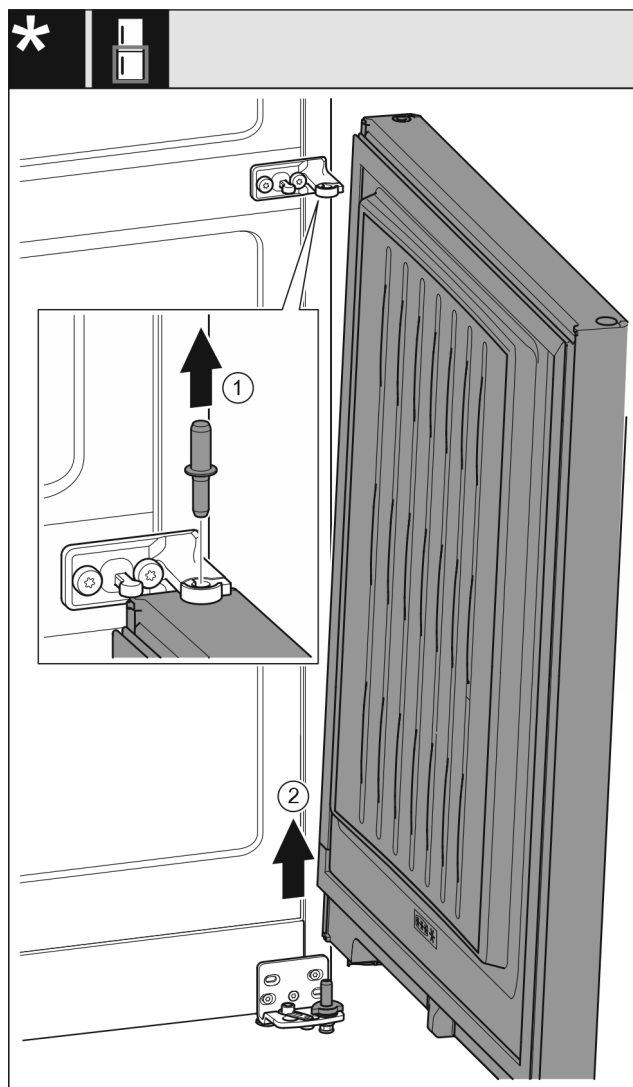

Fig. 10
- Pull out the pin Fig. 10 (1) upward.
- Swivel out the door Fig. 10 (2), pull it upward, and set it aside.